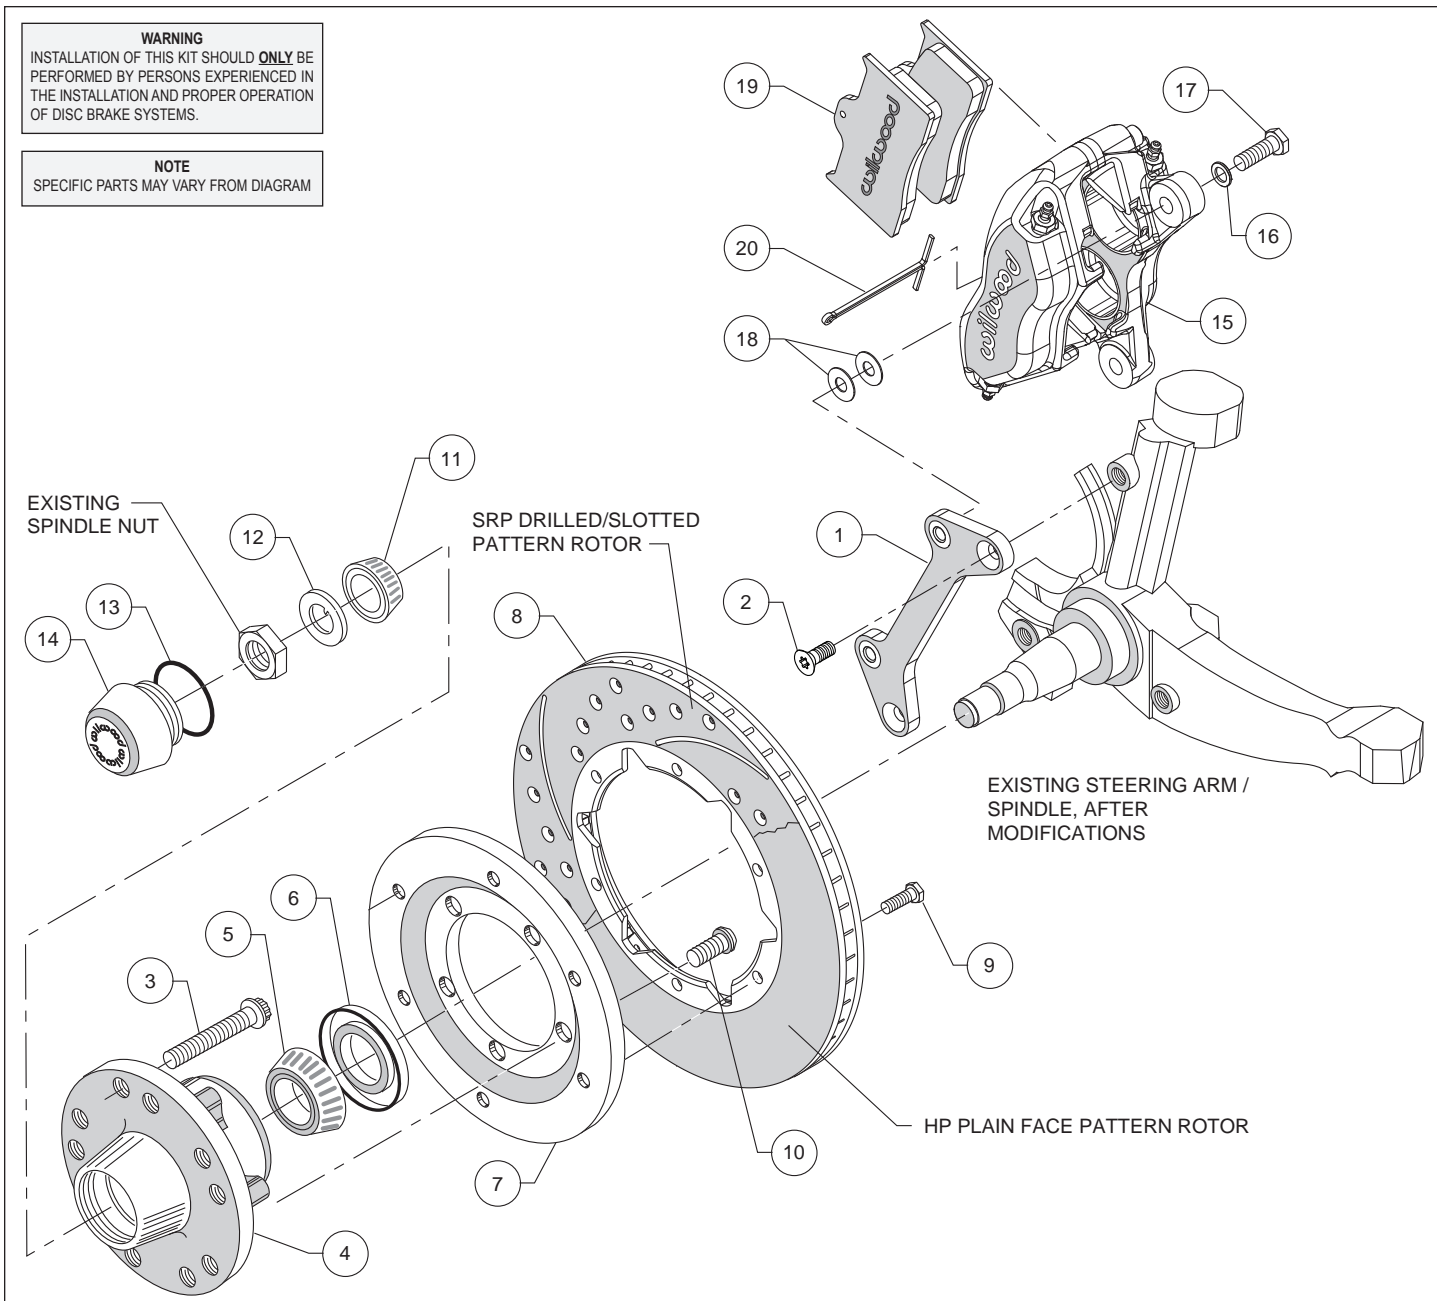
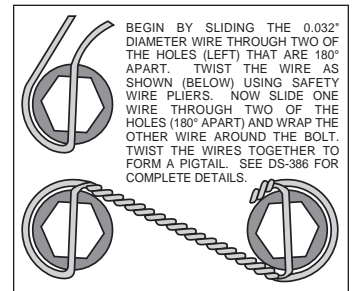
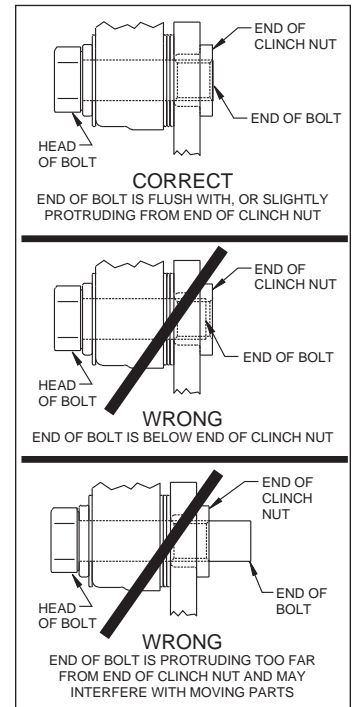

Figure 2. Typical Installation Configuration
Figure 4. Safety Wire Diagram
Figure 5. Clinch Nut Engagement Diagram
Assembly Instructions (numbers in parenthesis refer to the parts list, on the preceding page and Figure 2 above): **CAUTION:** All mounting bolts must fully engage clinch nuts. Be sure to check that all bolts are either flush or protruding through flanged side of clinch nut after shimming, Figure 5.
•Align caliper mounting bracket (1) with the corresponding holes, to the face of the spindle. Attach using bolts (2) as shown in Figure 2 and Photo 1. Temporarily tighten the mounting bolts. Ensure that the flanged heads of the clinch nuts in the bracket are facing outboard, Photo 1. **NOTE:** The bracket must fit squarely against the mounting points on the spindle. Inspect for interference from casting irregularities, machining ridges, burrs, etc. Remove bolts one at a time, apply red Loctite® 271 to threads and torque to 40 ft-lbs.
- Orient the rotor (8) and the rotor adapter (7) as shown in Figure 2 and Photo 4. Attach the rotor to the adapter using bolts (9). Using an alternating sequence, apply red *Loctite*® 271 to the threads, and torque to 180 in-lb.
- Safety wire bolts (9) using standard 0.032 inch diameter stainless steel safety wire as shown in Figure 4. Refer to Wilwood's data sheet DS-386 (available at www.wilwood.com/pdf/ds386.pdf) for complete safety wire installation instructions.
- Mount the adapter/rotor assembly (7/8) to the hub (4) using bolts (10), as shown in Figure 2 and Photo 5. Using an alternating sequence, apply red *Loctite*® 271 to the threads, and torque to 55 ft-lb. Safety wire bolts, as shown in Figure 4.
- NOTE:** Please reference the caution statement at the beginning of the assembly instructions. Mount the caliper (15) onto the caliper mounting bracket (1) using bolts (17) and washers (16), as shown in Figure 2. Initially place two .032" thick shims (18) on each bolt between the caliper and the bracket, Photo 8. Temporarily tighten the mounting bolts and view the rotor (8) through the top opening of the caliper. The rotor should be centered in the caliper, Photo 9. If not, adjust by adding or subtracting shims between the bracket and the caliper. Always use the same amount of shims on each of the two mounting bolts. **NOTE:** The end of each bolt must be flush with or slightly protruding from the head of the clinch nut, as shown in Figure 5. If necessary place spare shims between washer (16) and caliper mounting ear to achieve the proper clinch nut engagement. Once the caliper alignment and clinch
nut engagement are correct, remove the bolts one at a time, apply red *Loctite*® 271 to bolt threads, and torque to 40 ft-lb. Safety wire the bolts as shown in Figure 4.